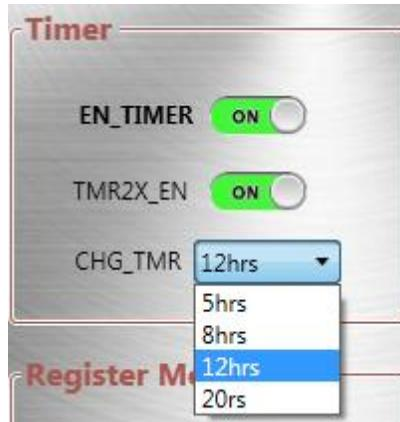

Figure 19: Setting the Charge Timer
- The default value is 12hrs (see Figure 19 on page 10).